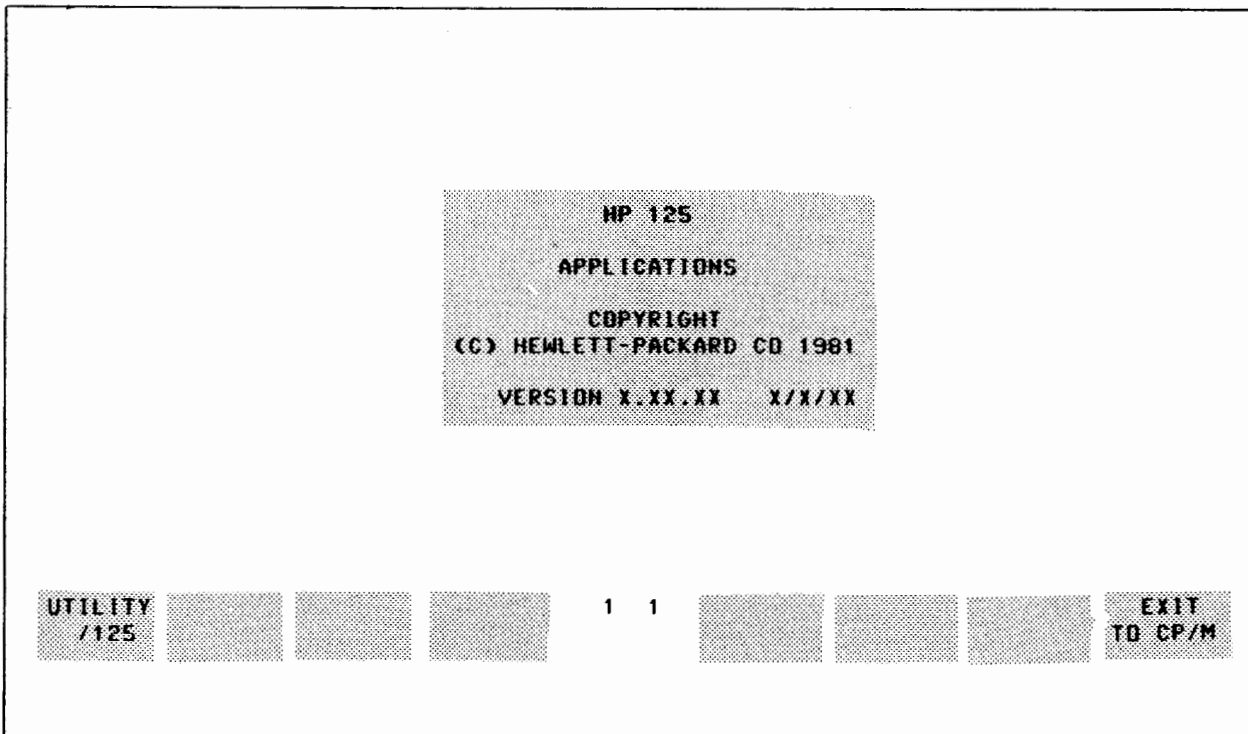

Figure 2-1. Welcome Screen.
2. Insert the System Disc into the flexible disc drive (drive A) and press the LOAD OP SYS function key to load the local operating system. The Welcome Menu will appear on the screen (refer to Figure 2-1).